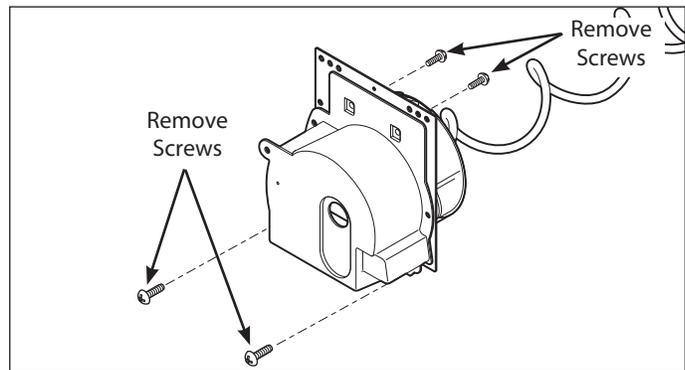

Figure 6-93.
5. Extract the four screws securing crusher housing to the steel mounting plate. (See Figure 6-93)